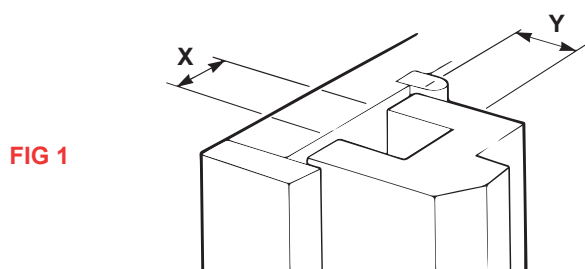

FIG 1
1) Grooves to house balances can be in either frame jambs or in sash stiles, **rounded or square** and must be of minimum dimensions shown in (Figs 1 & 2).